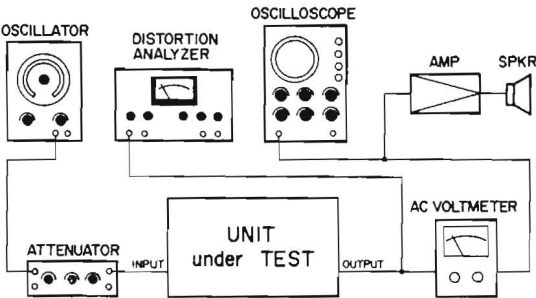

Fig. 7-4
- 1) Connect the measuring instruments as shown in Fig. 7-4. Obtain the standard setting according to procedures 2) – 6) of 7-5. and check record/reproduce level.